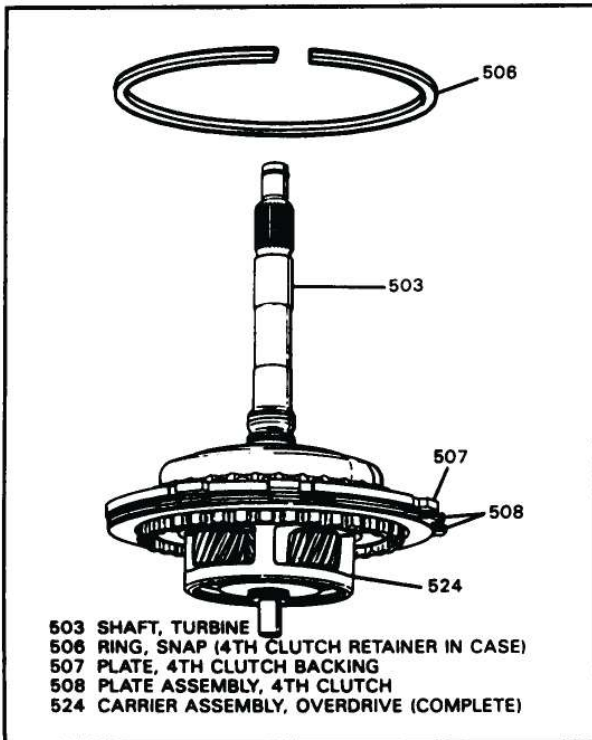

Figure 46
5. Remove the 4th clutch snap ring from the case as shown in Figure 46.
6. Remove the overdrive section and 4th clutch plates by grasping the turbine shaft and lifting straight up (See Figure 46).